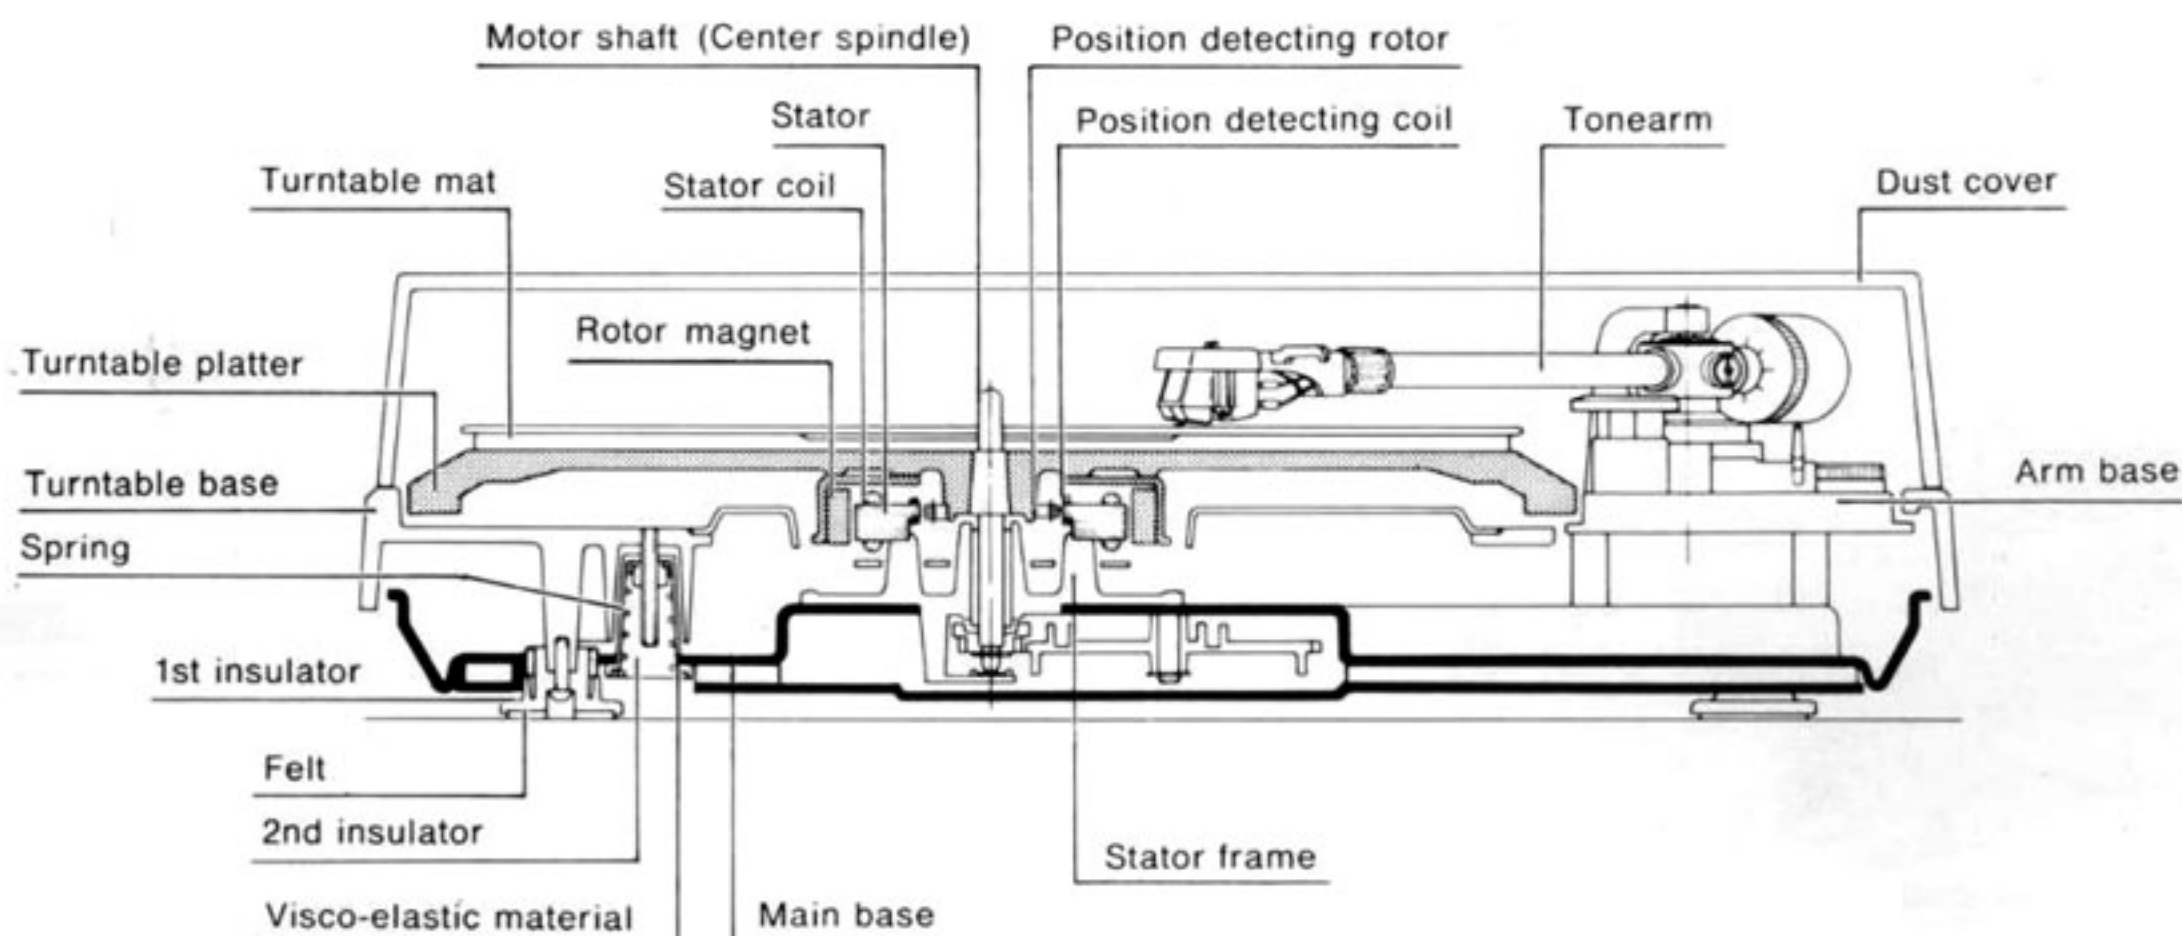

Fig. 31
- **The newly developed double-insulate vibration-damping unit, unique in Technics, was developed through high mass design placing particular emphasis on acoustic quality.** (See Fig. 31.) The turntable platter and the tonearm are installed on the base and solidly girded through the integral construction of the main base and the bottom of the case, while the entire base is floating in stable equilibrium with respect to the main turntable base through insulators, composed of metallic springs and a viscoelastic material. The main turntable base is also provided with an insulator superior in vibration damping characteristics for protection from undesirable external vibrations. As a result, a combined effect is obtained through the use of two insulators to maintain excellent absorption and cut-off of external vibrations and local resonance from speaker output thus effecting remarkably improved feedback prevention.
- **Motor construction peculiar to Technics in which the rotor of the motor is integrally connected to the turntable platter** (See Fig. 31.) In Technics turntable systems we took the lead in the world by putting the Direct Drive system on the market with a marked improvement in the performance of turntables. Since then, we have developed numerous turntables of high performance, furnishing new topics of conversation each time. One of these achievements is the motor construction of this unit, unique and singular in the world, in which the rotor of the motor is directly connected to the turntable platter. Moreover, the motor base has been integrally connected to the turntable base of diecast aluminum for presenting turntable systems of higher accuracy and rational construction.